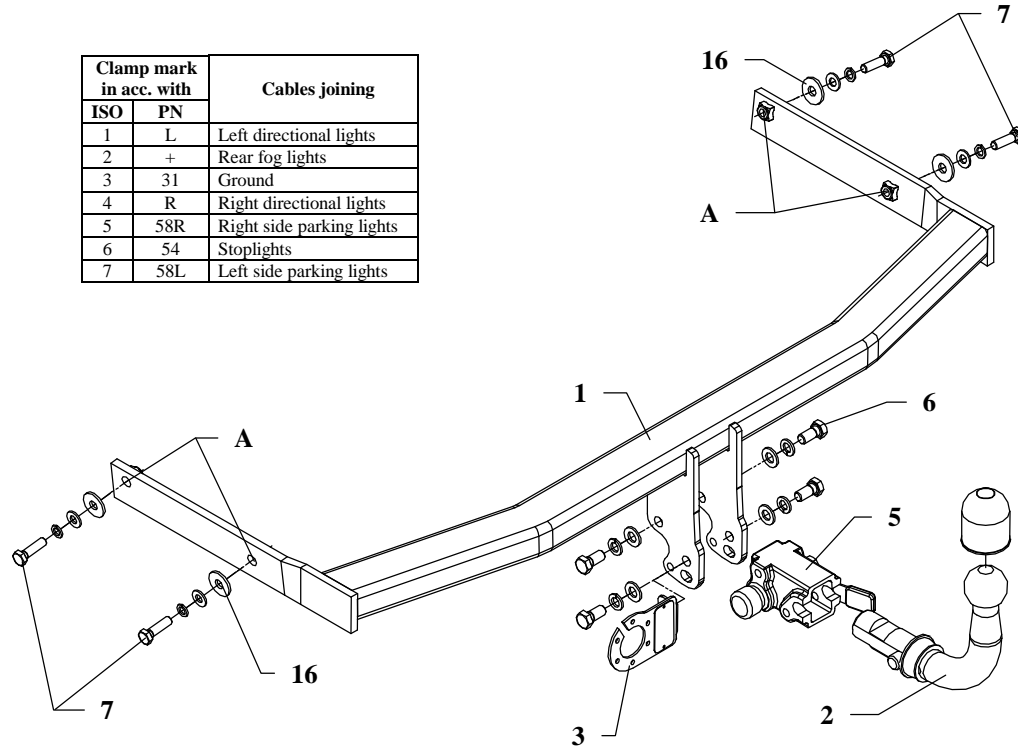

Fig. 1
5. Slip the main bar of the towing hitch (pos. 1) to chassis frame and fix it in points A using bolts M10x35mm (pos. 7) as shown on the figure 1. Use washers (pos. 16).
8. Fix body of the automat (pos. 5) and the socket plate (pos. 3) using bolts M12x25mm (pos. 6) from accessories. Place tow-ball (pos. 2) according to supplied instruction.